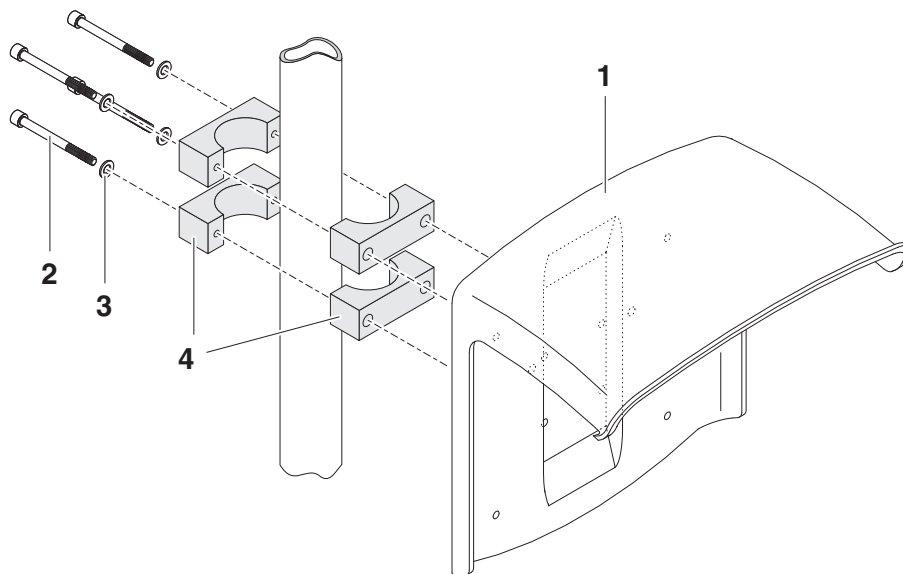

Fig. 3-3 Mounting the SSH/IQ sun shield on a mounting stand
- 1 | Screw the sun shield (pos. 1 in Fig. 3-3) with the four hexsocket head screws (pos. 2), the washers (pos. 3) and the clamps (pos. 4) at the required height on the mounting stand from the back.